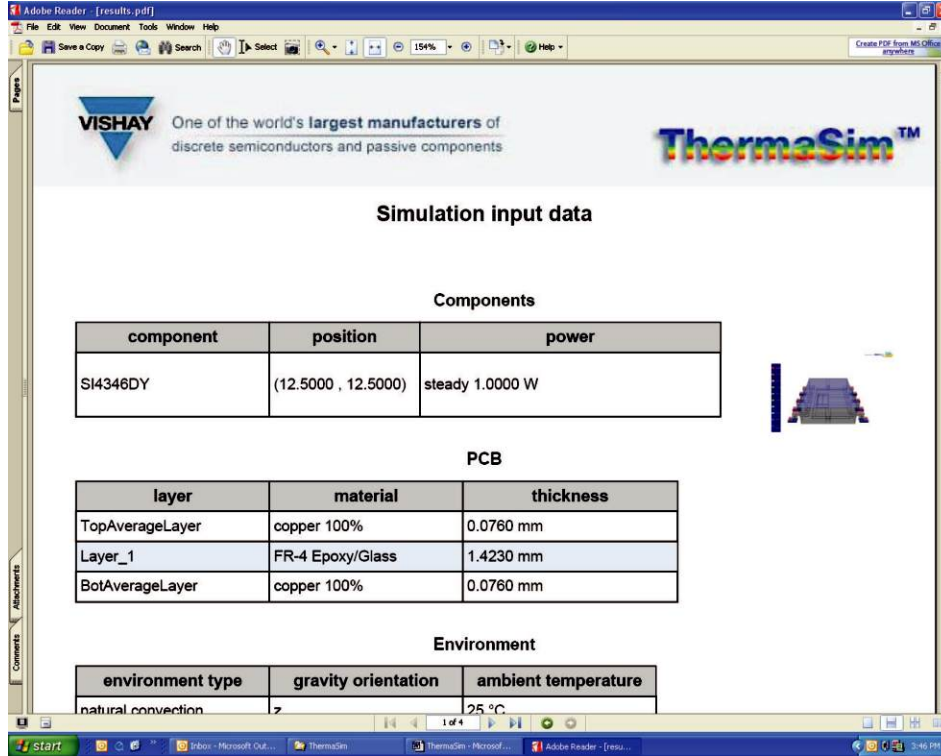

Figure 55.
- **Input Data** (see Figure 55) - This section lists all relevant design data.